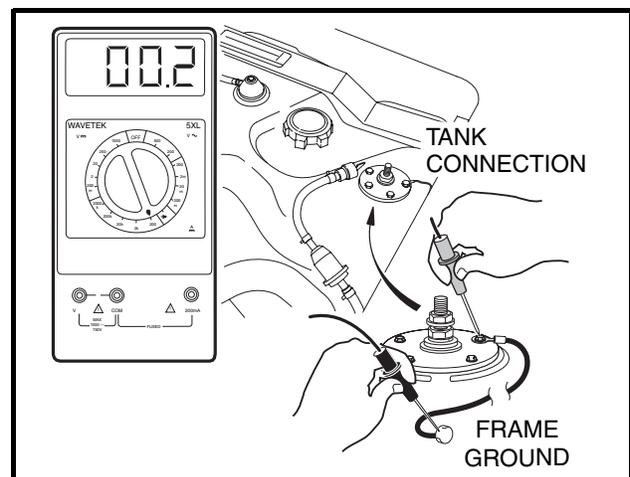

Figure 11-12 Fuel Tank Ground
- 5.2. Set the multimeter to 200 ohms. Place the red (+) probe on the terminal for the fuel tank ground connection, and place the black (-) probe on the vehicle frame (**Figure 11-12, Page 11-16**). The reading should be continuity. If there is no continuity, clean and tighten all cable connections. If the connections are good, repair or replace the cable.